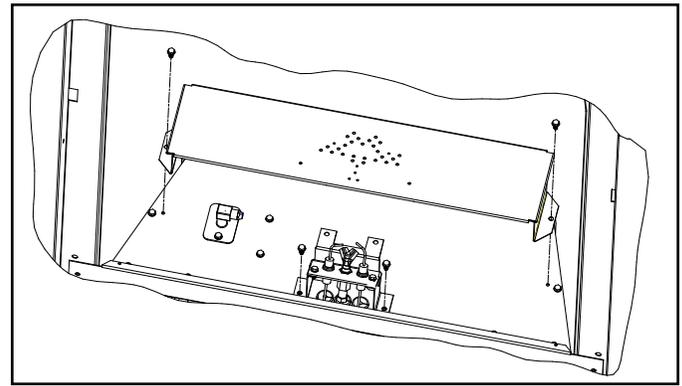

Figure 9.10
- Unscrew the brackets at both ends of the burner and the top two screws locating the pilot bracket (see Figure 9.10). Slide the burner away from the burner orifice.